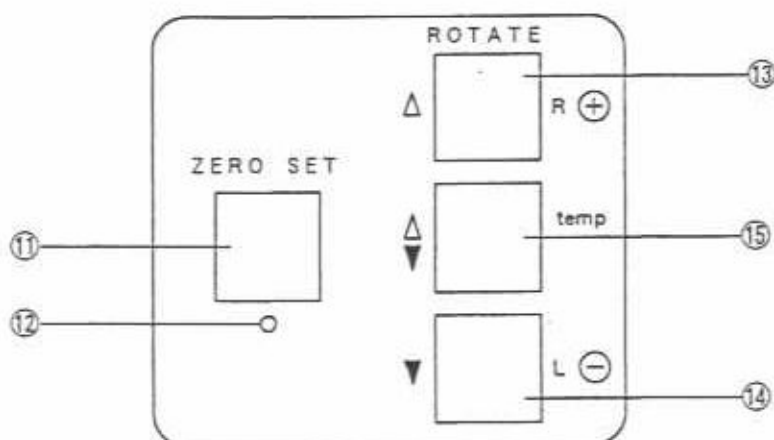

Figure 3-3
(3) Operation panel (Figure 3-3)
⑪ ZERO SET switch: